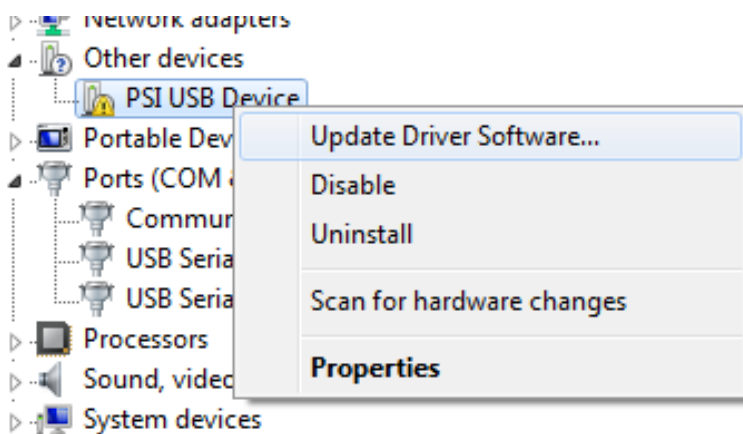

Fig. 17 PSI USB device
- Connect the SpectraPen to the PC. You should see that **PSI USB Device** appears in the list. Right click on it and select **Update Driver Software** (Fig. 17)